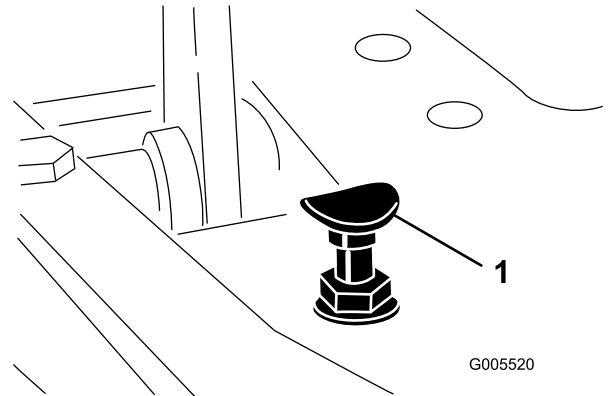

Figure 42
press down on the traction pedal. If the pedal contacts the stop (Figure 42) before you feel tension on the cable, perform the following adjustment procedure:
1. Put the functional-control lever in the TRANSPORT position and loosen the locknut securing the pedal stop to the floor plate (Figure 42).